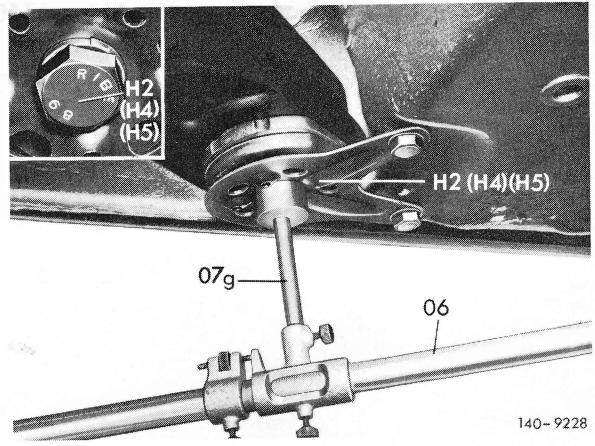

Fig. 13
6 Measure distance "H2" from check bore "K" to hex. screw of front bearing on frame floor left and right with beam compass, measuring length 1,500 mm (06) and measuring bolt with cup, length 77 mm (07g) (Fig. 13 and 14).